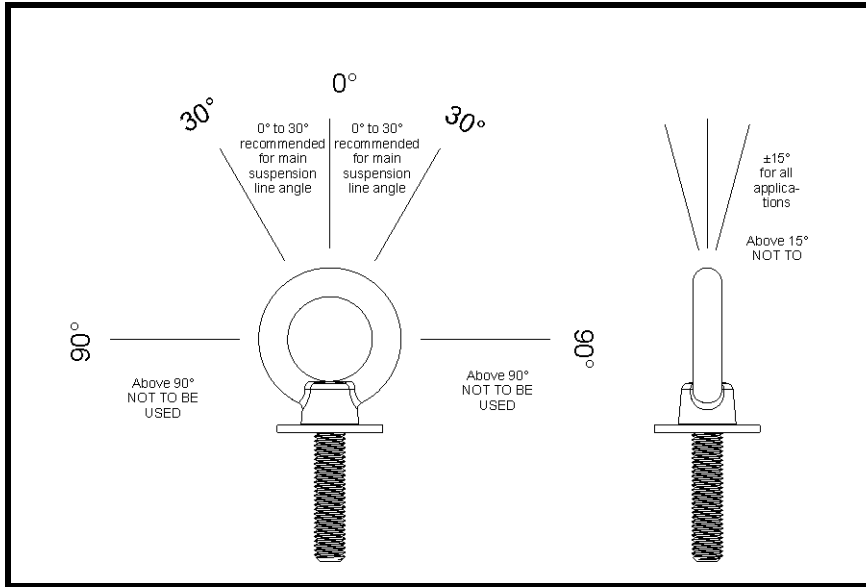

FIGURE 34. Eyebolt Orientation
**NOTE:** Fasten up to six (6) **M8 eyebolts** (four [4] on top and one [1] on each end) to the loudspeaker enclosure according to your mounting requirements.
**IMPORTANT:** If only one (1) eyebolt is used to rig the loudspeaker, the installer must use a threadlocker to prevent the loudspeaker from spinning out of the eyebolt during operation.
**IMPORTANT:** Eyebolts must be fully seated and oriented in the plane of pull as shown in Figure 34. Always use washers to distribute suspension loads.